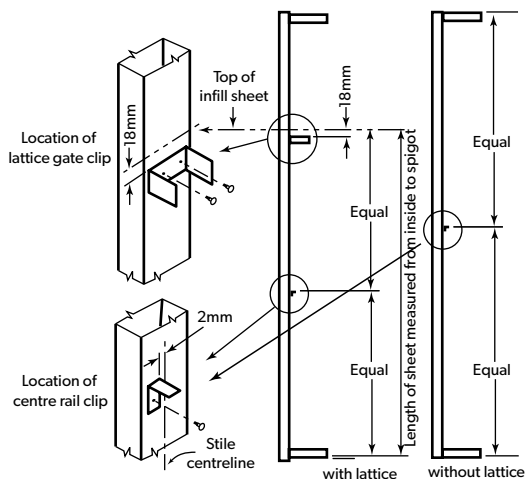

FIGURE 23.4:
5. Notch the top leg of the lattice on both ends (Figure 23.4).
10. For gate with 'PLUS Option', drive an additional #10-16x16 screw into the two corners of the lower top rail passing through the lattice clip in alignment with Position A (Figure 23.4).
13. For extra wide gate with lattice additional screws are required (Figure 23.4).